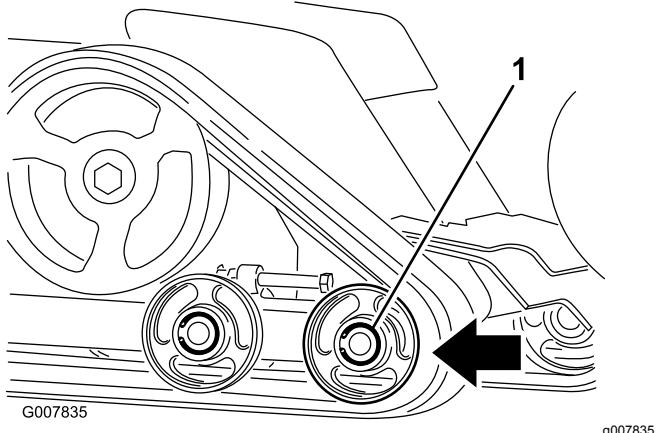

Figure 47
6. Push the front road wheel rearward as far as it can goes (Figure 47).
8. When the track is off the road wheel, remove it from the machine (Figure 47).
9. Beginning at the drive sprocket, coil the new track around the sprocket, ensuring that the lugs on the track fit between the spacers on the sprocket (Figure 47).
10. Push the track under and between the rear and center road wheels (Figure 47).